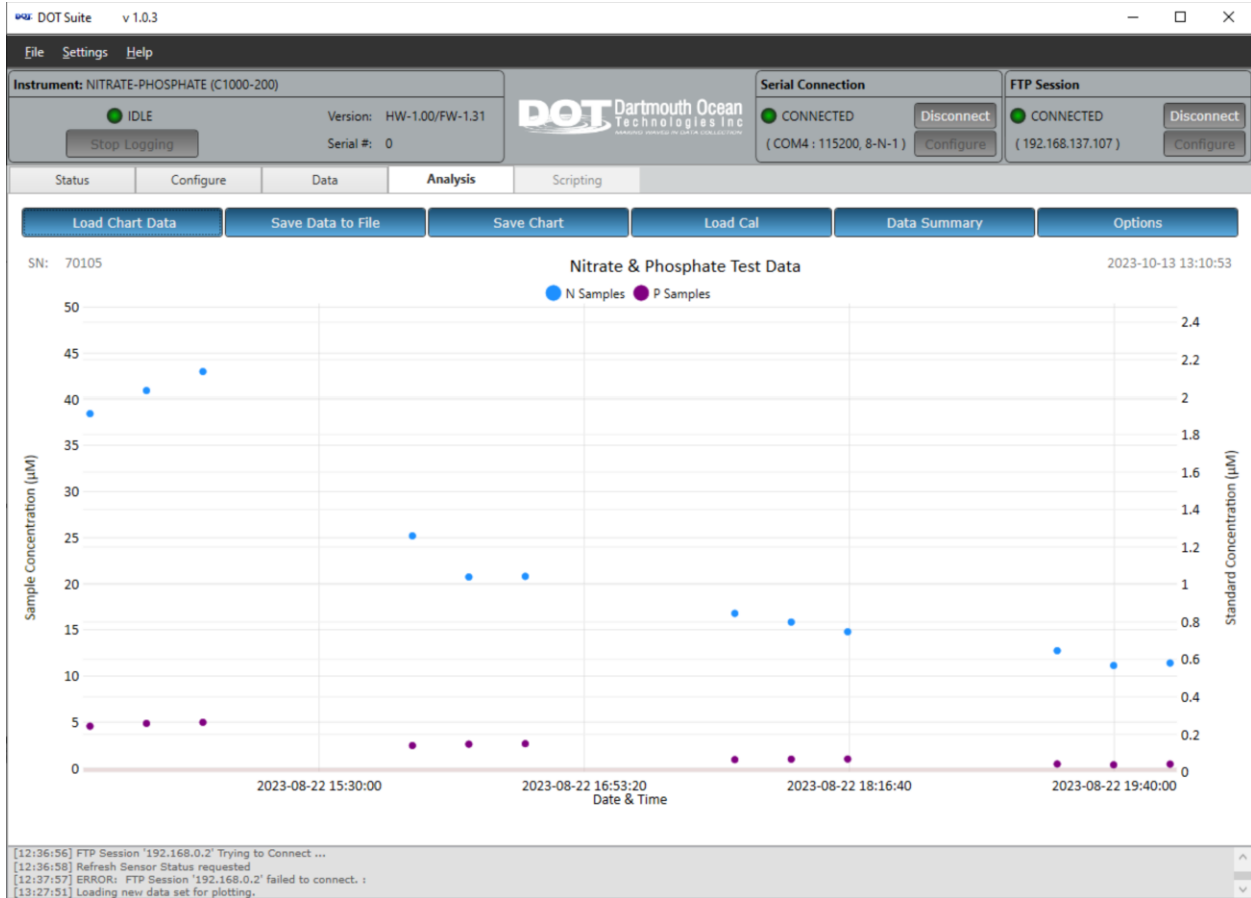

Figure 9: DOT Suite – Analysis tab.
- Figure 9: DOT Suite – Analysis tab. 13
Data obtained from loaded con files are plotted in the Analysis tab – see Figure 9. Both Standard and Sample measurements may be graphed on the same plot. However, in Figure 9, only Sample measurements are displayed from the test data set.